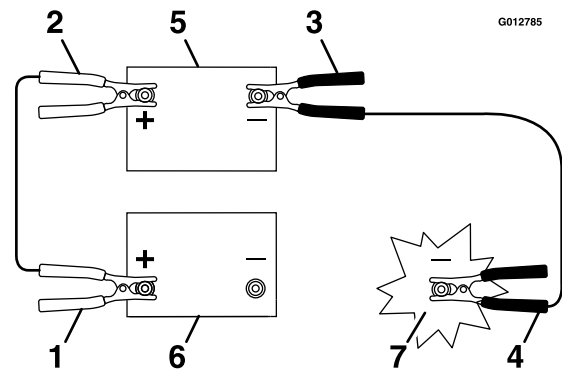

Figure 57
3. Connect the positive (+) cable to the positive (+) terminal of the discharged battery that is wired to the starter or solenoid as shown in Figure 57.